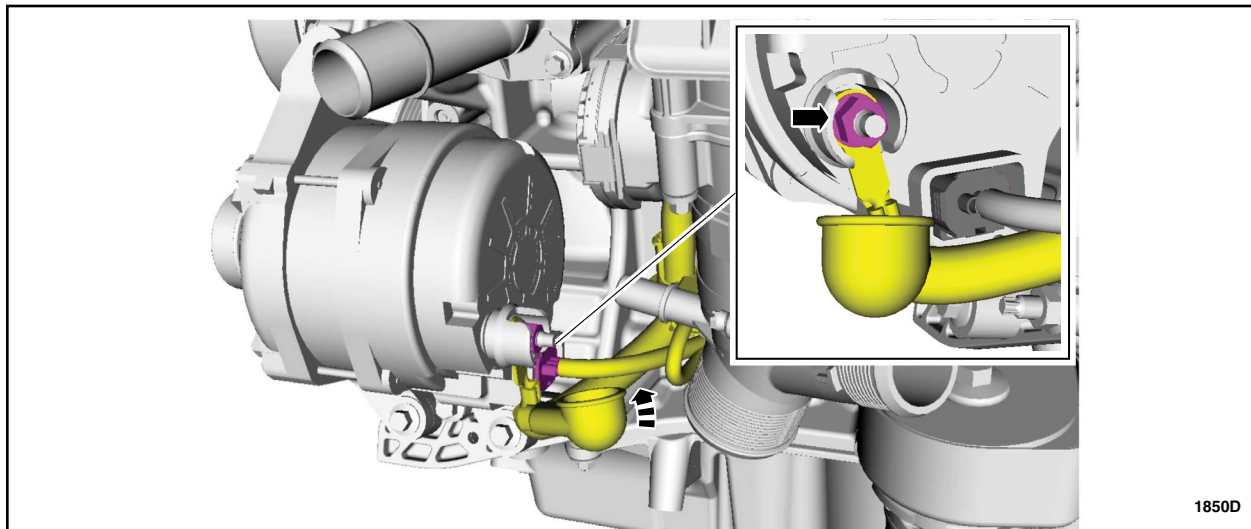

FIGURE 5
6. Inspect the generator battery positive cable nut and stud for cross threading and torque the nut. See Figure 5.